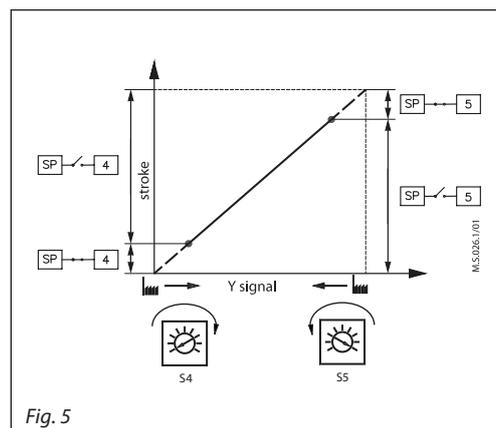

Fig. 5
**DIP6: C/P – Output signal mode selector (Fig. 5. see next page) :**